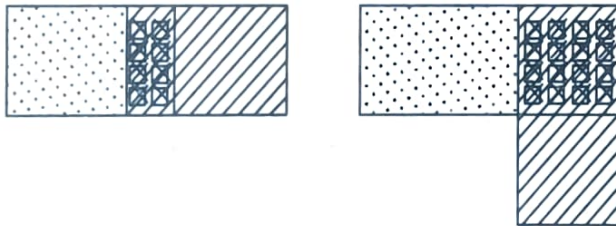

Fig. 2.1.2. Multiple bias for low-resistance connections.
10. Multiple contacts should be used to form low-resistance connections, as shown in Fig. 2.1.2.